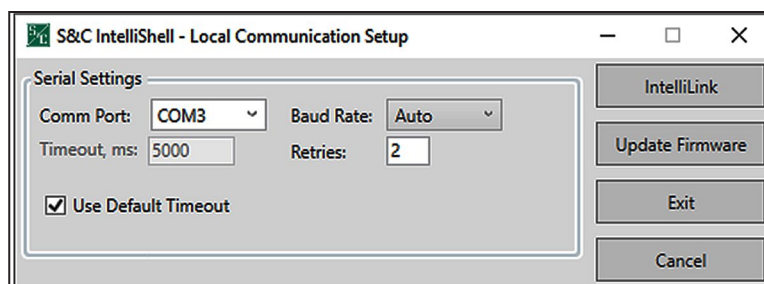

Figure 6. The Communications Parameters entries within the S&C Electric IntelliShell—Local Communication Setup dialog box.
- (d) Click on the **IntelliLink** button. See the “Firmware Update” section on page 17 when a firmware update is required. See Figure 6.